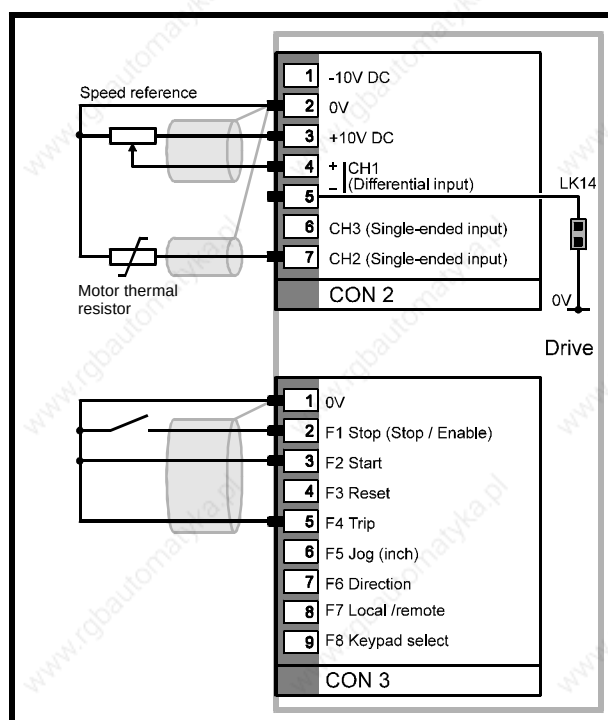

Figure 8–1 Basic control connections for operating the Drive in Terminal Mode
1. Make control connections as shown in Figure 8–1.